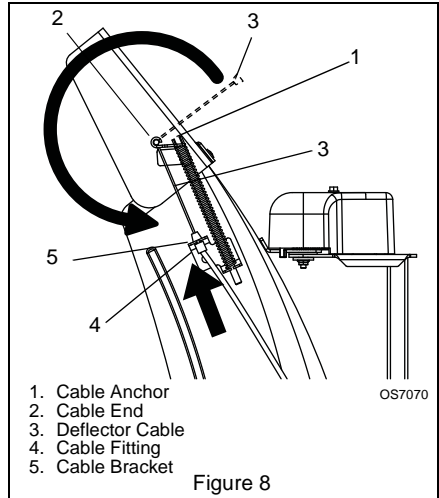

Figure 8
(Figure 8)
2. Insert the barrel on the cable end into the bracket on left side of chute deflector (Figure 8).